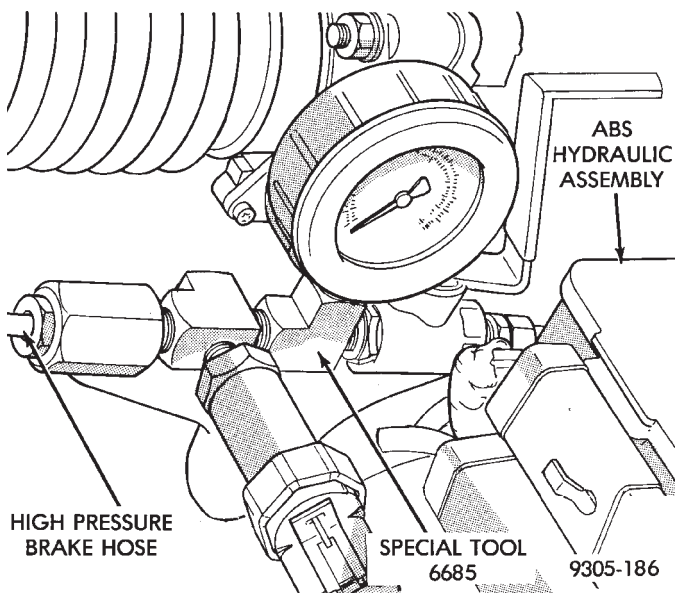

Fig. 3 Test Gauge 6685 Installed
CAUTION: When installing Test Gauge, Special Tool 6685, ensure that pressure gauge is on high pressure hose side of shut off valve (Fig. 3).
(4) Verify shut off valve on Test Gauge, Special Tool 6685 is in the open position. Then install Test Gauge, Special Tool 6685 in-line with high pressure hose (Fig. 3). Screw male end of Test Gauge, Special Tool 6685 into high pressure adapter on hydraulic assembly and torque nut to 16 N•m (145 in. lbs.)
(5) Install high pressure brake fluid hose (Fig. 3) into Test Gauge, Special Tool 6685 and torque tube nut to 16 N•m (145 in. lbs.).